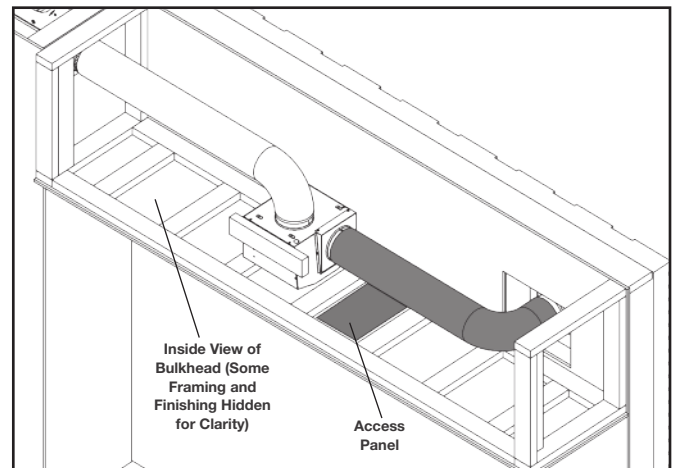

Fig. 4
- Apply silicone to the joint after installation, and caulk or seal the flashing appropriately for the finish material **(Fig. 4)**.
4. Install 6" rigid steel venting (not supplied) from the blower housing assembly outlet to the hot air exhaust assembly (Fig. 4).
7. If applicable, remove the 4 screws securing the decorative cover on the blower housing assembly and set them aside (**Fig. 4, next page**). Remove the decorative cover and set it aside.
18. Install/reinstall the decorative cover onto the blower housing assembly using 4 screws (supplied) (**Fig. 4**).